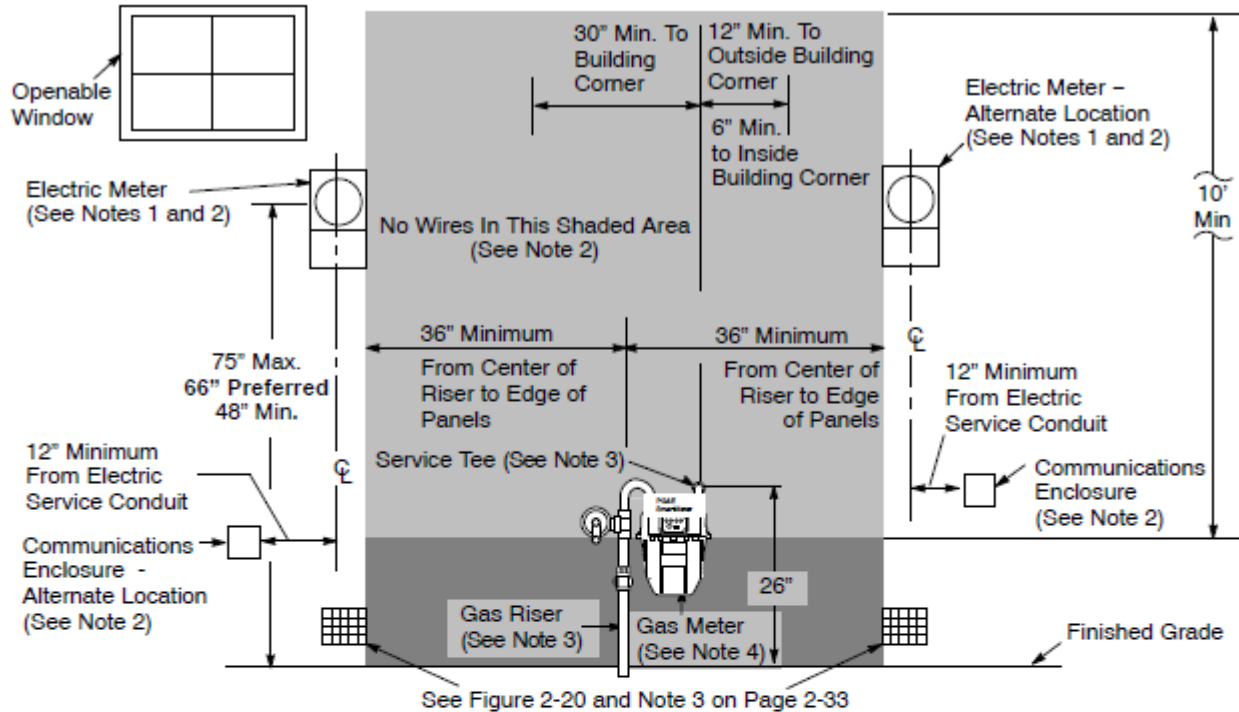

Figure 2-19
### Notes in reference to Figure 2-19.
4. The minimum dimensions and clearances in Figure 2-19 are good for gas meters up to the 1,000 class. See Figure 2-14 and Figure 2-15 on Pages 2-27 and 2-28 for illustrations of clear and level working space in front of the gas meter.